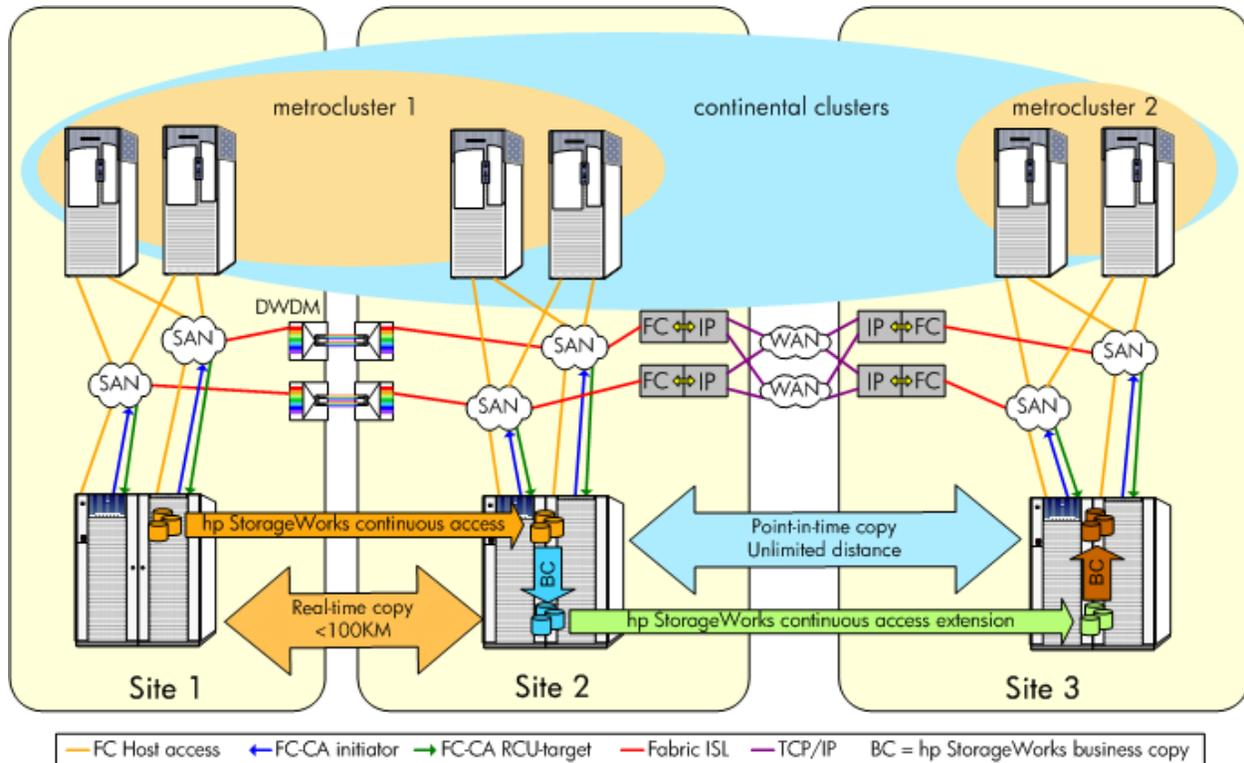

Figure 1: Model configuration physical view
- Figure 1: Model configuration physical view 10